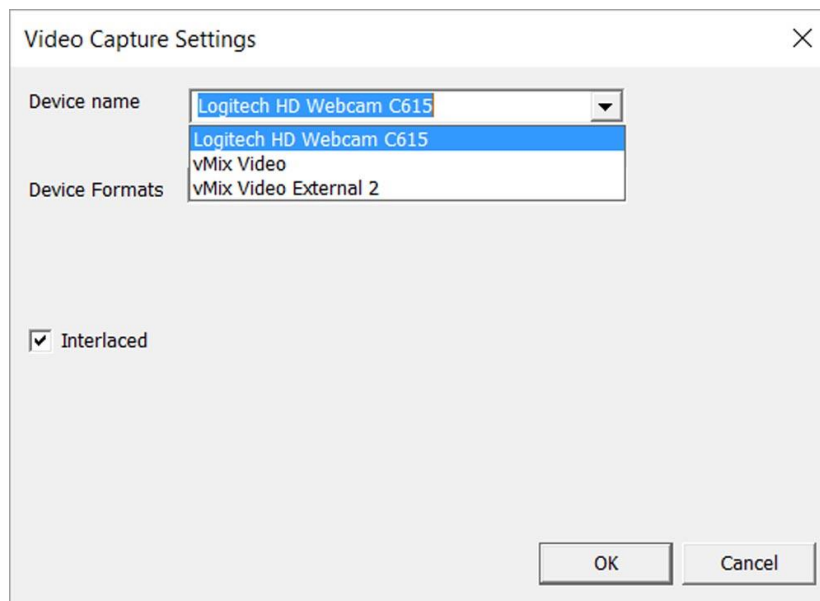

Figure 20 – The Video Capture screen allows you to select your camera if plugged in.
- The VIDEO CAPTURE Settings screen as shown in **Figure 20** should appear.